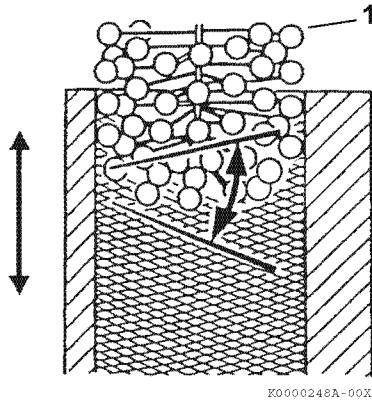

Figure 6-78
When honing a cylinder, with either a ridged hone or a ball hone (Figure 6-78, (1)), move the rotating hone up and down in the cylinder bore to accomplish a 30° to 40° crosshatch pattern (Figure 6-78). This will provide the ideal surface for the proper seating of new piston rings.